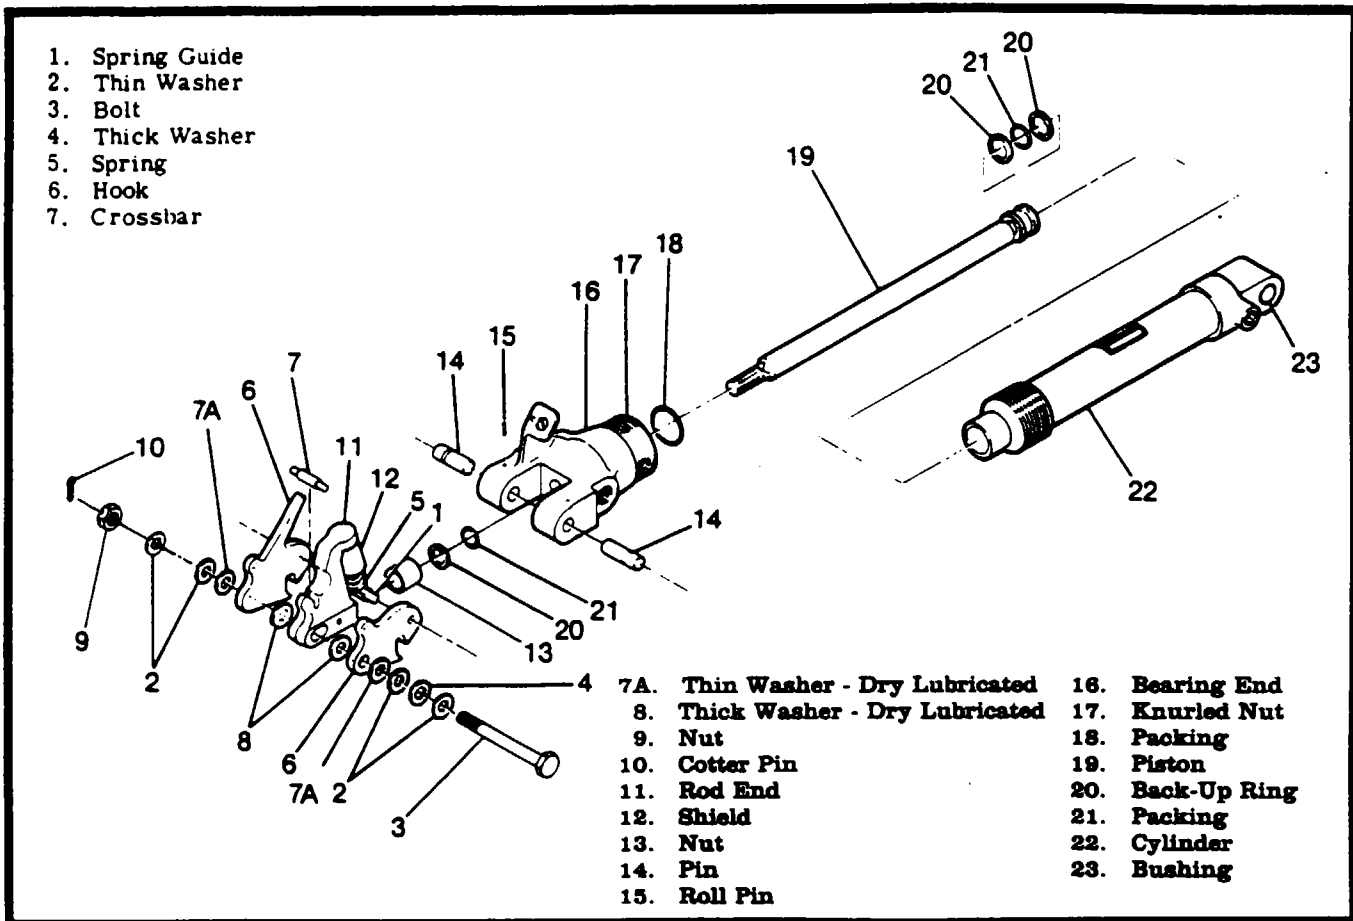

Figure 5-23. Nose Gear Actuator
**5-104. NOSE GEAR ACTUATOR.** (Refer to figure 5-23.)
(Refer to figure 5-23.)
## 5-109. REASSEMBLY OF NOSE GEAR ACTUATOR. (Refer to figure 5-23.)